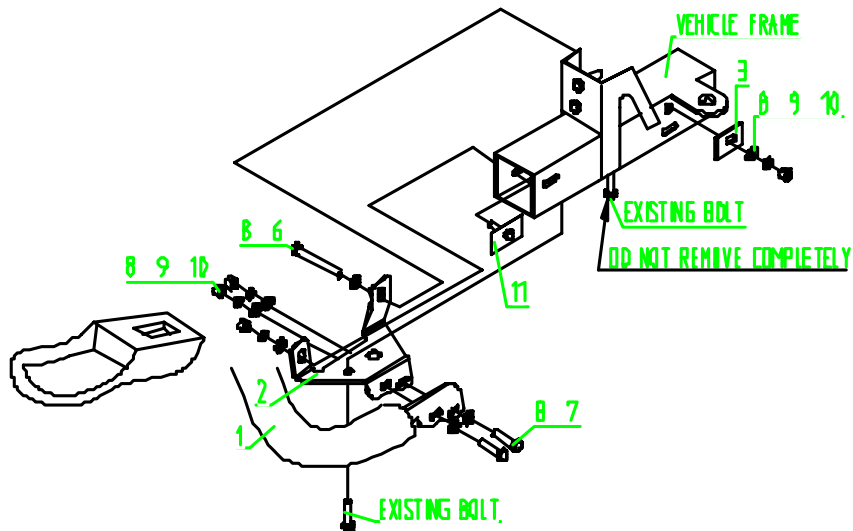

FIGURE 3 INSTALLATION VIEW OF DRIVER SIDE ,PASSENGER SIDE OPPOSITE
STEP 4. Determine passenger driver brackets. Attach brackets using mount plates, bolt plates, and 1/2 " fasteners as shown. Bolt plates will be inserted from the end of the frame rail. Hand tighten. Rein stall front tow hook bolt and torque to 60 FT. LBS and 1/2 " fasteners to 65 FI. LBS. SEE FIGURE 3.